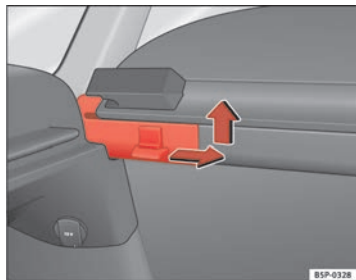

Fig. 124 Removing the luggage compartment cover
- Press the side pin in the direction of the arrow, lift the cover and remove it. ⇒ fig. 124